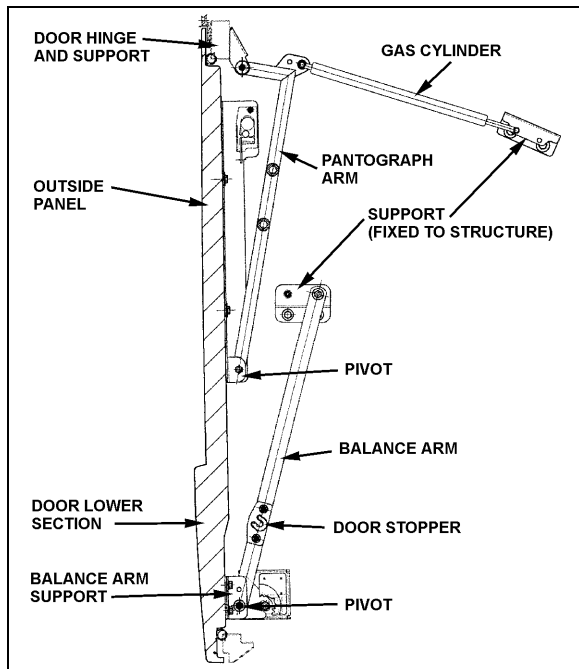

FIGURE 57: BAGGAGE COMPARTMENT DOOR 18061
**Note:** Refer, if needed, to figure 57 for identification of door components.